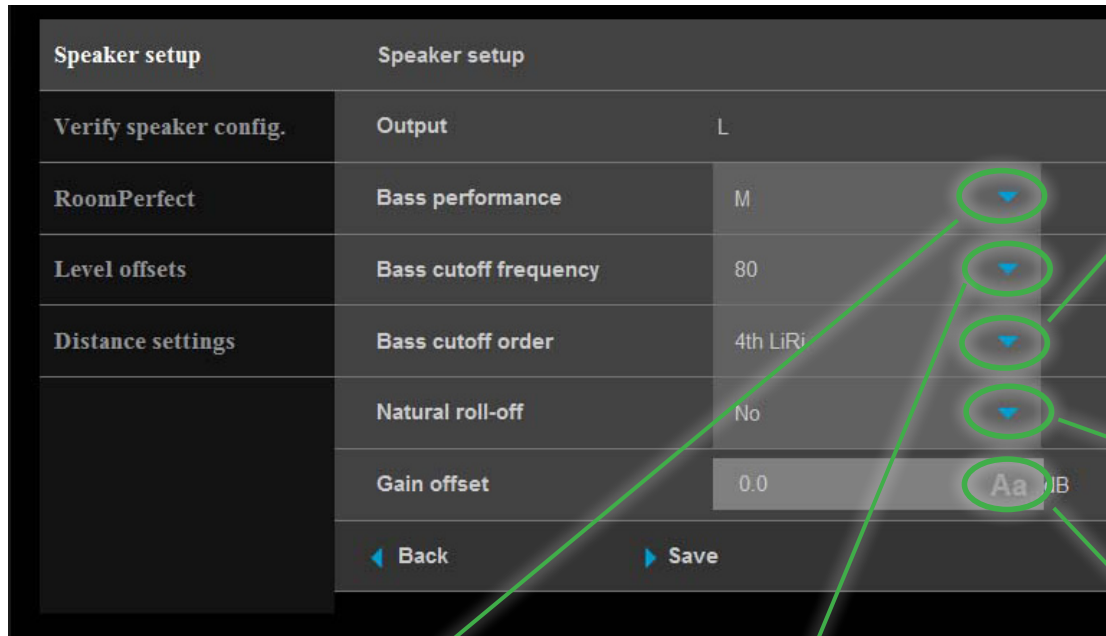
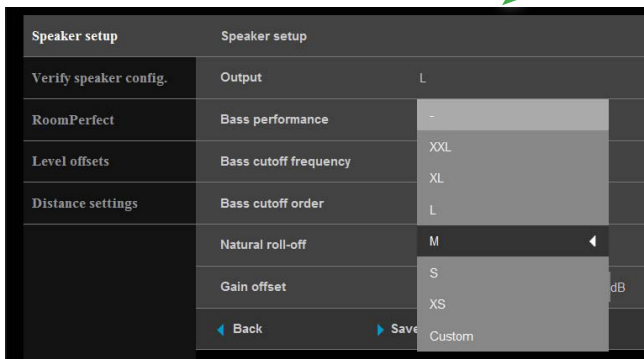

Figure 7
Figure 8
8. By clicking on the blue color triangles (appearing in the various on screen menus) submenus with additional options and alpha-numeric entries can be made. Refer to figures 7 and figures 8 thru 12.